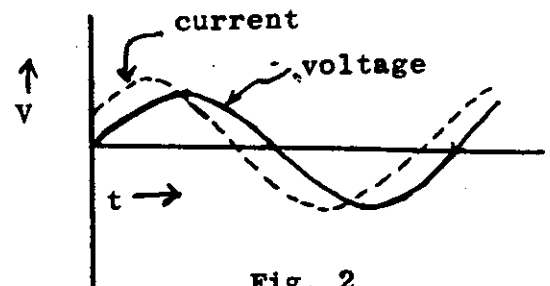

Fig. 2
The current leads the voltage in this case, by an angle ϕ given by (see Fig. 2)
If an external voltage of effective value V_E and frequency f is applied to the circuit containing R and L (as shown in Fig. 2), then the effective current I is given by Eq. (1) and the impedance Z of the circuit is given by